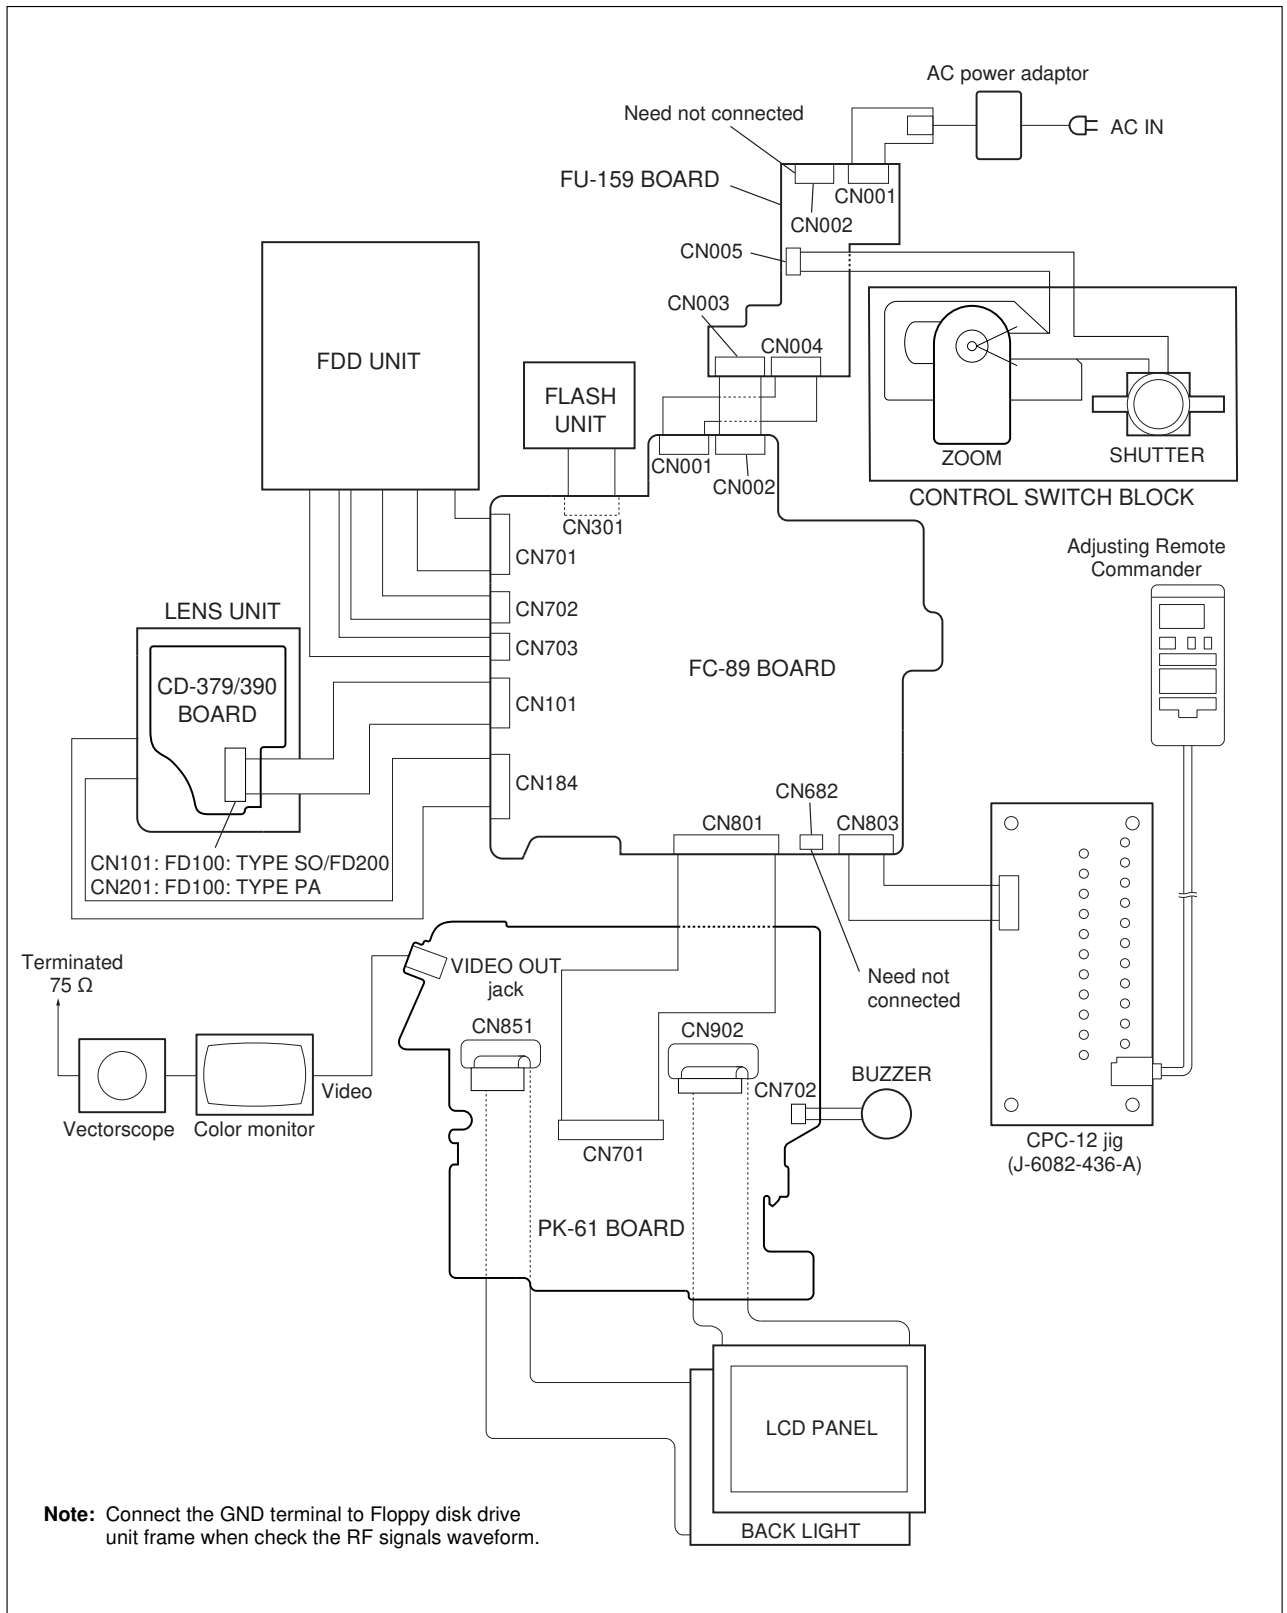

Fig. 5-1-6
- 1) Connect the equipment for adjustments according to Fig. 5-1-6.